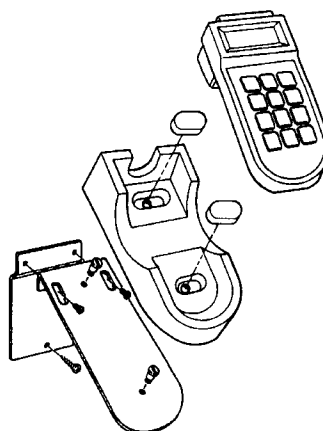

Figure C-3. PIN Pad 101 Mount Components (Exploded View)
1. Screw the flat wall plate securely to the wall as shown in Figure C-3. Use screw anchors if you are fastening the mount to a cement or brick wall. If you are fastening the plate to drywall, the screws must go into the studs behind the wall. Screw anchors alone will not safely hold the PIN Pad mount to drywall.